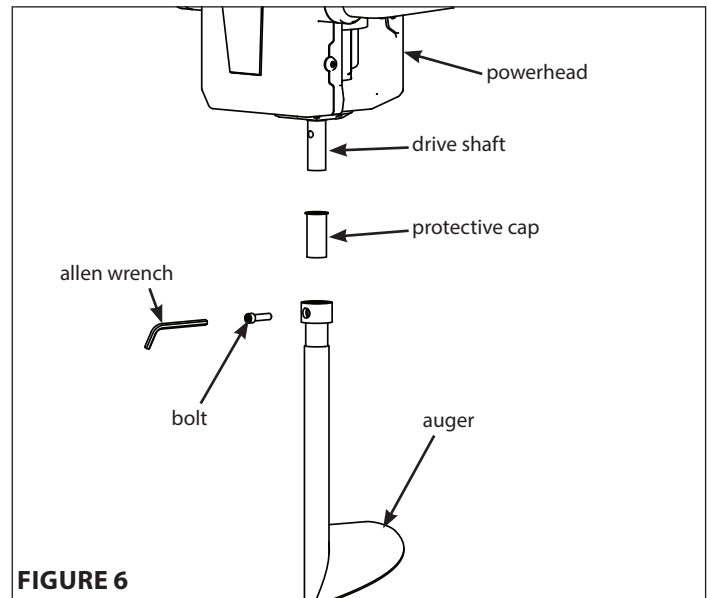

FIGURE 6
2. Remove the auger from the powerhead and apply a thin layer of grease to the drive shaft. **SEE FIGURE 6**